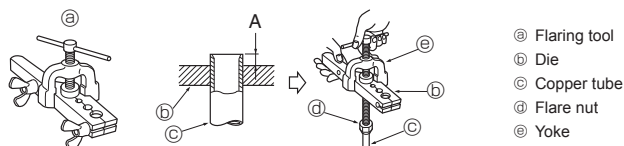

Fig. 5-5
5.3.4. Flaring work (Fig. 5-5)